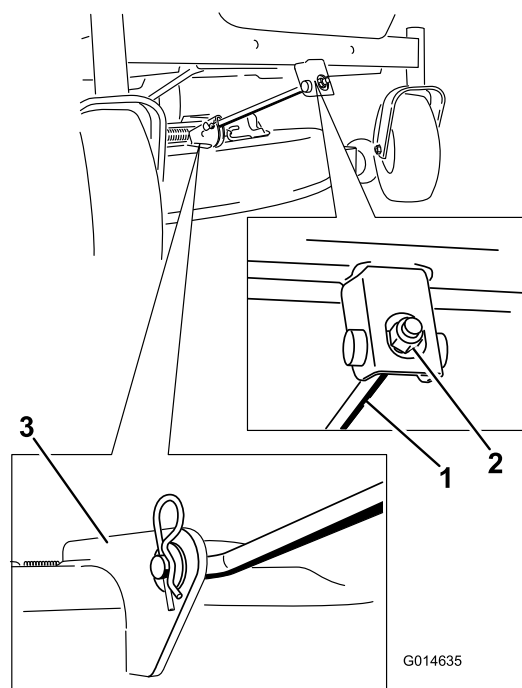

Figure 56
4. Remove the hairpin cotter from the front support rod and remove the rod from the deck bracket (Figure 56). Carefully lower the front of the mower deck to the ground.
6. Attach the front support rod to the mower deck with the clevis pin and hairpin cotter (Figure 56).